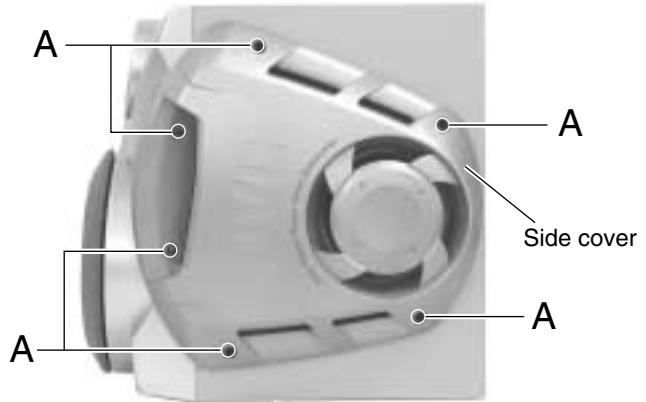

Fig.1
■ **Removing the side cover (See Fig.1)**